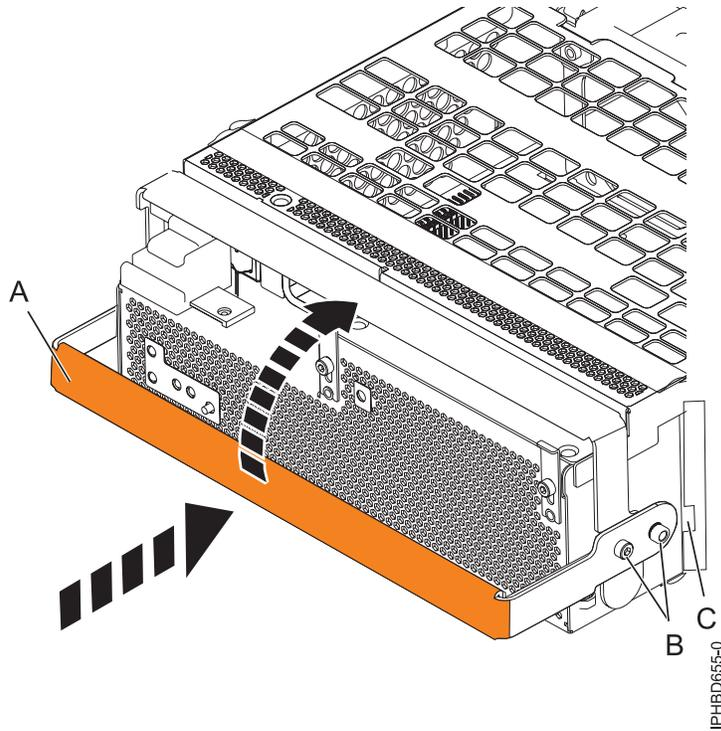

Figure 73. Replacing a power supply
10. To replace the power supply, with the locking handle (A) in the open position, push the power supply into the expansion unit as shown in Figure 73 on page 94.
11. Close the locking handle (A) until the power supply locks into position.